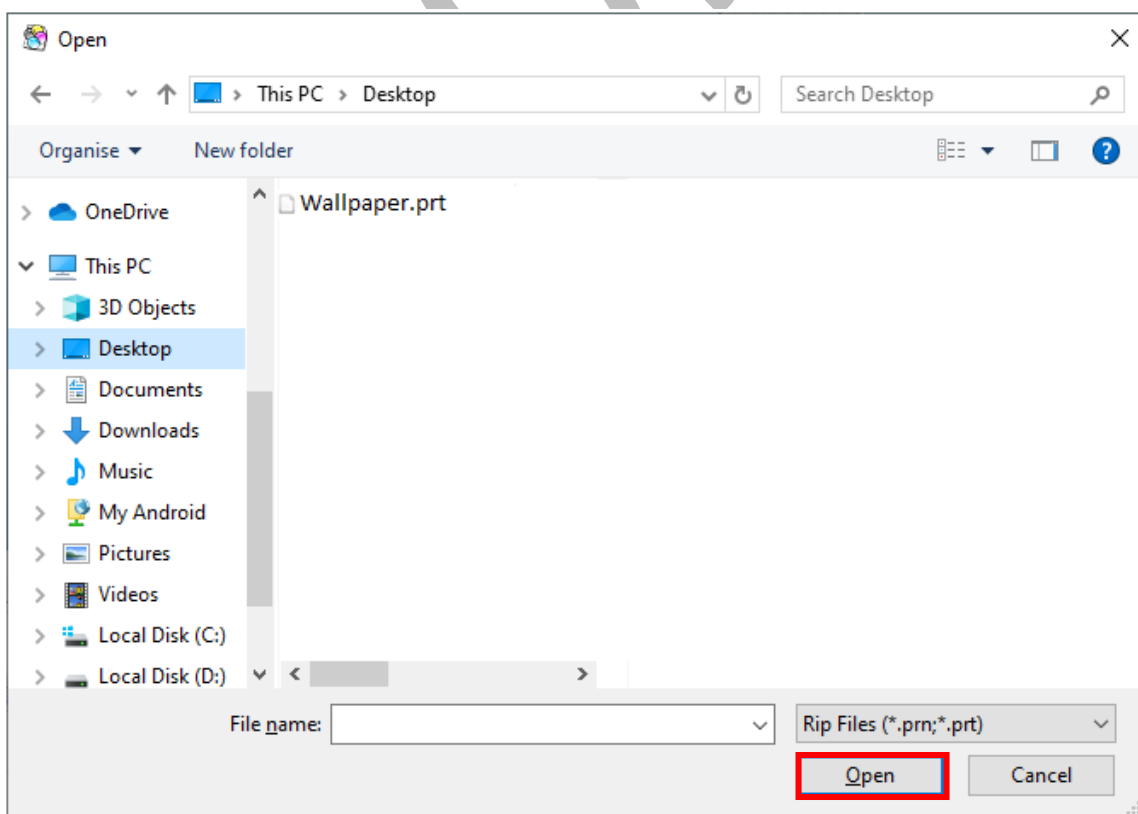

Fig 35: Adding the Job
**Step 2:** Navigate to the location where the image file with extension **".prt"** and **".prn"** is stored (Refer to Fig 35).